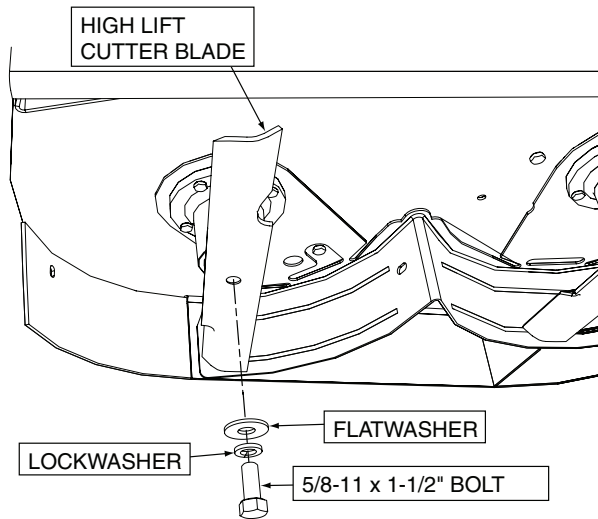

**Figure 3-2. Removing the Hopper Assembly**
3. Remove the (2) snap pins holding the hood assembly to the mounting brackets on the rear of the machine. See Figure 3-2.